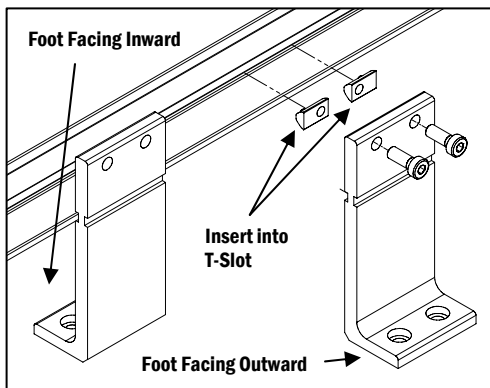

Figure 2
b. Insert the Drop In Nuts into the T-Slot in the conveyor frame. Line up the Raised Mount to the Drop In Nuts, insert the M6 Socket head Cap Screws through the mount and fasten to the frame. The Raised Mount mounting foot can face either inward or outward (**Figure 2**).